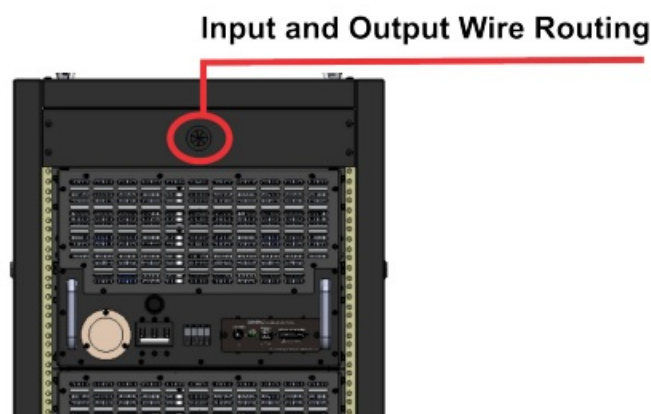

Figure 2.5 – Grommet for routing input and output wiring into the system case
1. Route your output cables through the grommet in the panel located at the top of the cabinet back. See Figure 2.5. Make sure the cable is long enough to reach the back panel of the the lowest amplifier module in the